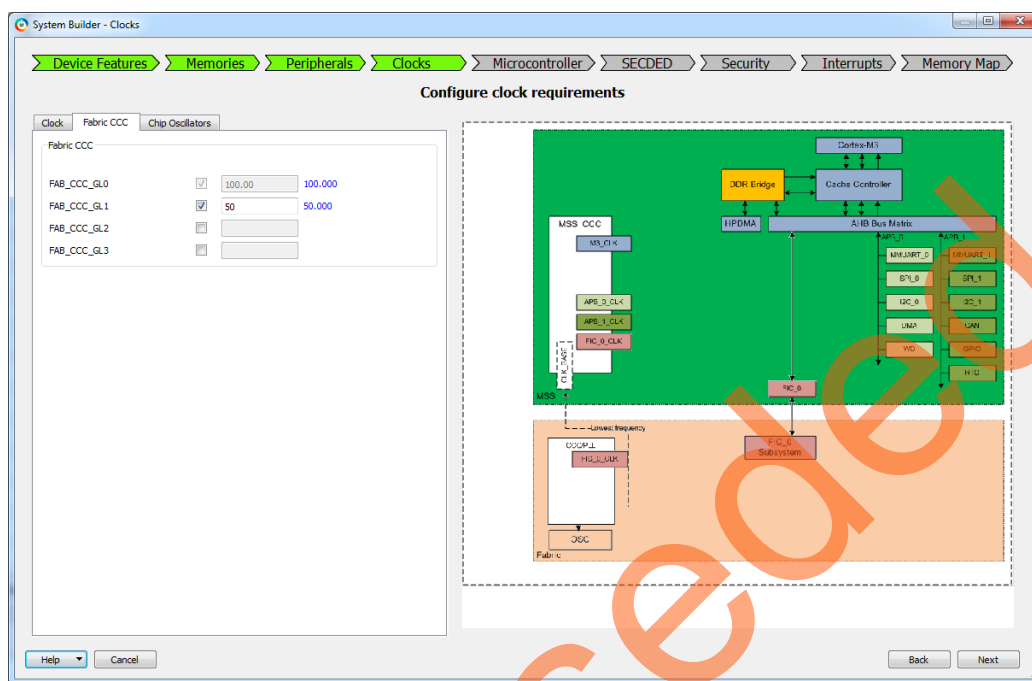

Figure 26 • SmartFusion2 - Fabric CCC Tab
- b. For SmartFusion2, select **System Clock** source as **125.00 MHz**, **FPGA Fabric Input** from the drop-down list, and **M3_CLK** as **100.00 MHz**. Select **Fabric CCC** tab, select the **FAB_CCC_GL1** check box and set to **50.00 MHz**, as shown in Figure 26.